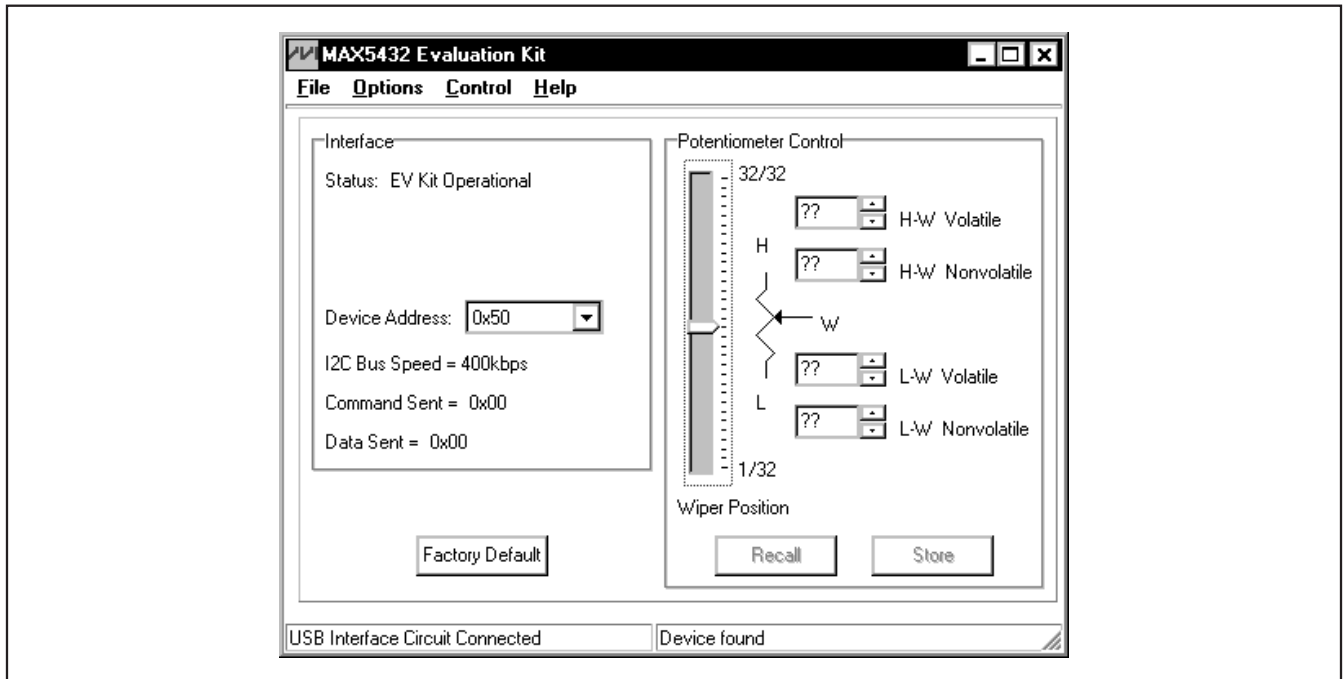
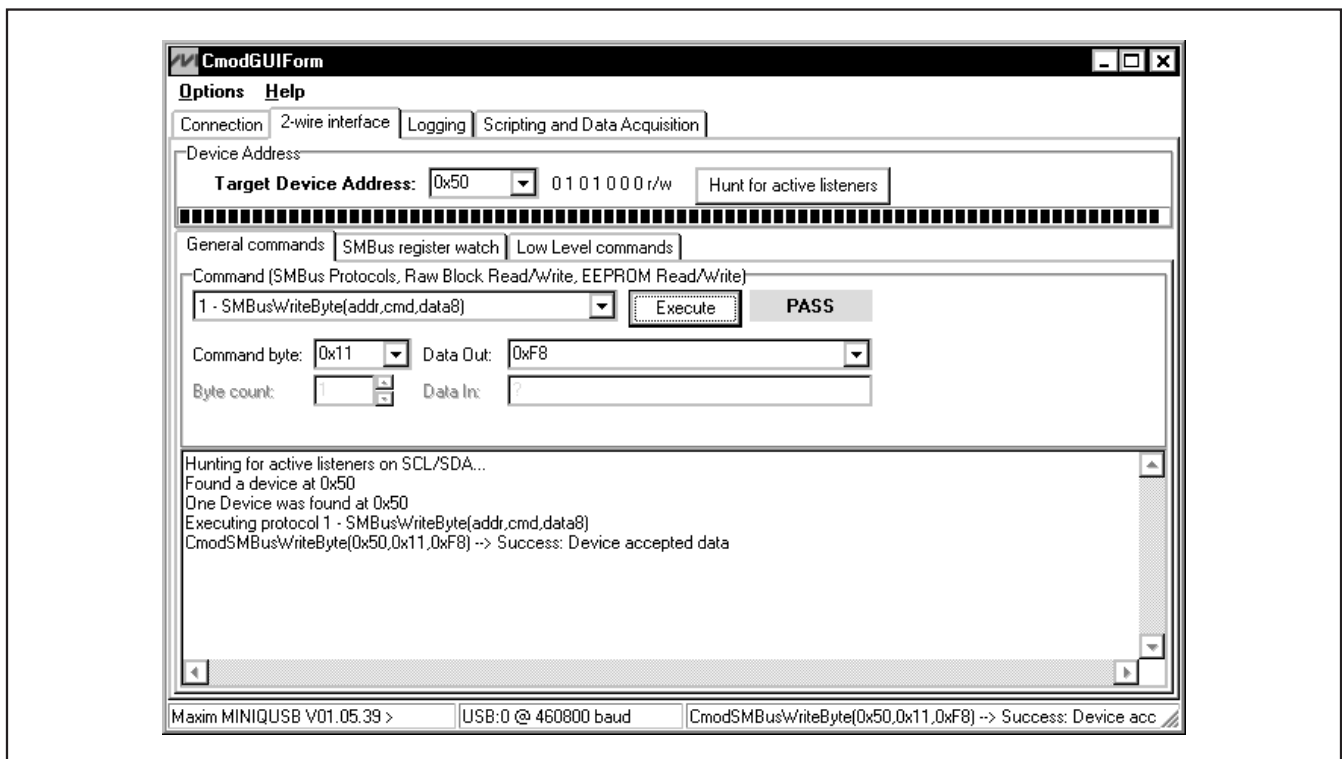

Figure 1. MAX5432 Evaluation Kit Software Main Window
Figure 3. Simple Low-Level 2-Wire Interface
The MAX5432 EV kit software GUI (Figure 1) is a Windows program that provides a convenient means to control the MAX5432. Use the mouse or press the **TAB** key to navigate through the GUI controls. The correct I2C write operation is generated to update the MAX5432 internal memory registers when any of these controls are executed.
There are two methods for communicating with the MAX5432 EV kit, through the normal user-interface panel (Figure 1) or by using low-level SMBus™ commands available through the **2-Wire Interface** utility from the main program's **Options | Interface (Advance Users)** main menu. A window is displayed (Figure 3) that allows I2C operations, such as **SMBusReadByte** and **SMBusWriteByte**. Do not use the **SMBusReadByte** operation because the MAX5432 does not send data to the master.
**Note:** The I2C dialog boxes accept numeric data in binary, decimal, or hexadecimal. Hexadecimal numbers must be prefixed by \$ or 0x. Binary numbers must be exactly eight binary digits. See Figure 3 for an example
of this tool. Figure 3 shows a simple SMBus write-byte operation using the included 2-wire interface diagnostics tool. In this example, the software is writing data 0xF8 to the register address 0x11 (write to volatile memory) to the device with the device address 0x50. The data sequence sets the MAX5432 wiper position to 32.